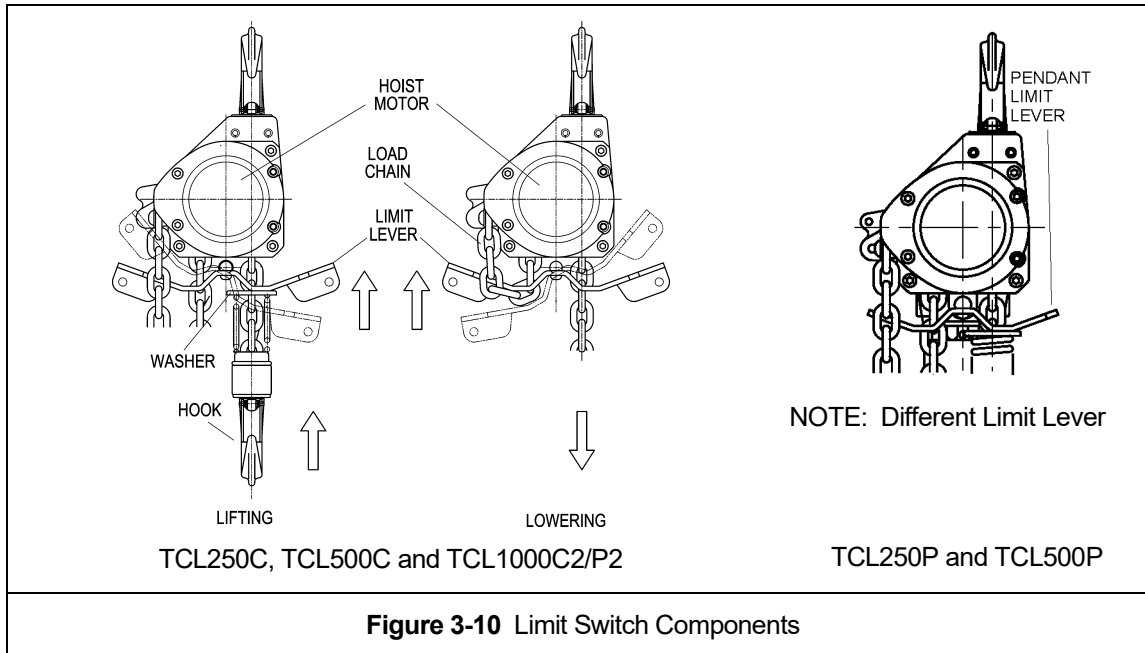

Figure 3-10 Limit Switch Components
3.13.6 **⚠ WARNING** Verify that the Chain/Limit Lever is operational and can move freely in both the up and down directions. For reference see Figure 3-10.